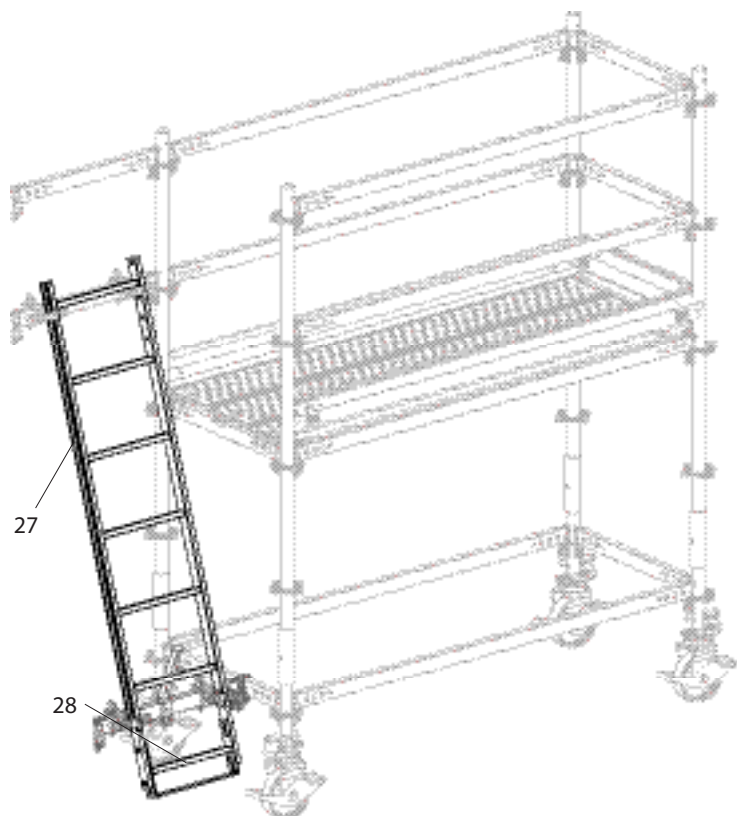

Fig. A4.08
5. Insert ladder 180/6 (27) with rails into the tube clamping parts.
7. Screw the ladder base (28) onto the ladder at the desired height. (Fig. A4.08)